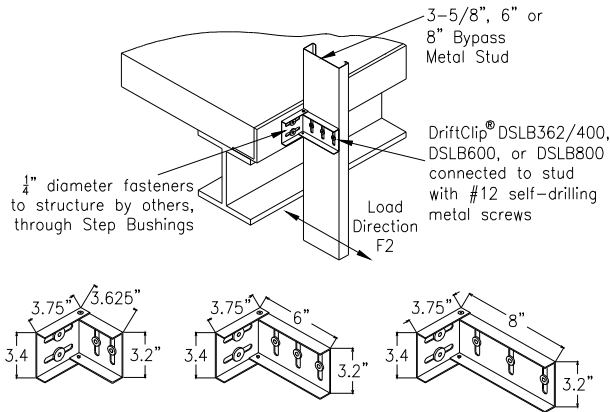

Figure 1 – DriftClip® DSLB362/400, DSLB600 and DSLB800
3.1.2 DriftClip® DSLB: DriftClip® DSLB362/400, 600 and 800 are L-shaped angles that connect 3⁵/₈- or 4-, 6- and 8-inch-deep (92 or 102, 152, and 203 mm) exterior curtain wall steel studs, respectively, to a concrete floor slab's pour stop angle while allowing a maximum of 2 inches (51 mm) of vertical and horizontal movement between exterior wall elements and the primary structure. The minimum base-metal thickness of the clips is 0.0966 inch (2.5 mm). The leg which matches the wall depth and is fastened to the curtain wall stud has two or three slots parallel to the heel of the angle, each 3/8 inch (9.5 mm) wide by 2³/₈ inches (60 mm) long with a bushing designed for No. 12-14 by 1-inch self-drilling/self-tapping steel screw installed in the centers of the slots. The 3³/₄-inch (95 mm) leg, which is fastened to the structure, has bushings designed a for 1/4-inch-diameter (6.4 mm) fastener installed in the center of each slot. Refer to Figure 1 for overall dimensions of each DriftClip® DSLB connector and a typical installation detail.
¹Refer to Figures 1 through 6 for direction of load.